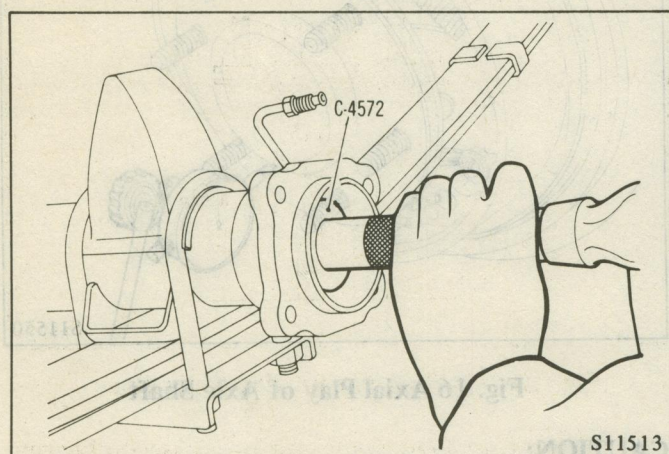

Fig. 12 Driving in the Oil Seal
(6) Apply grease to lip of oil seal (inner). Drive the oil seal (inner) into rear axle housing end using special tool (C-4572). (Fig. 12)